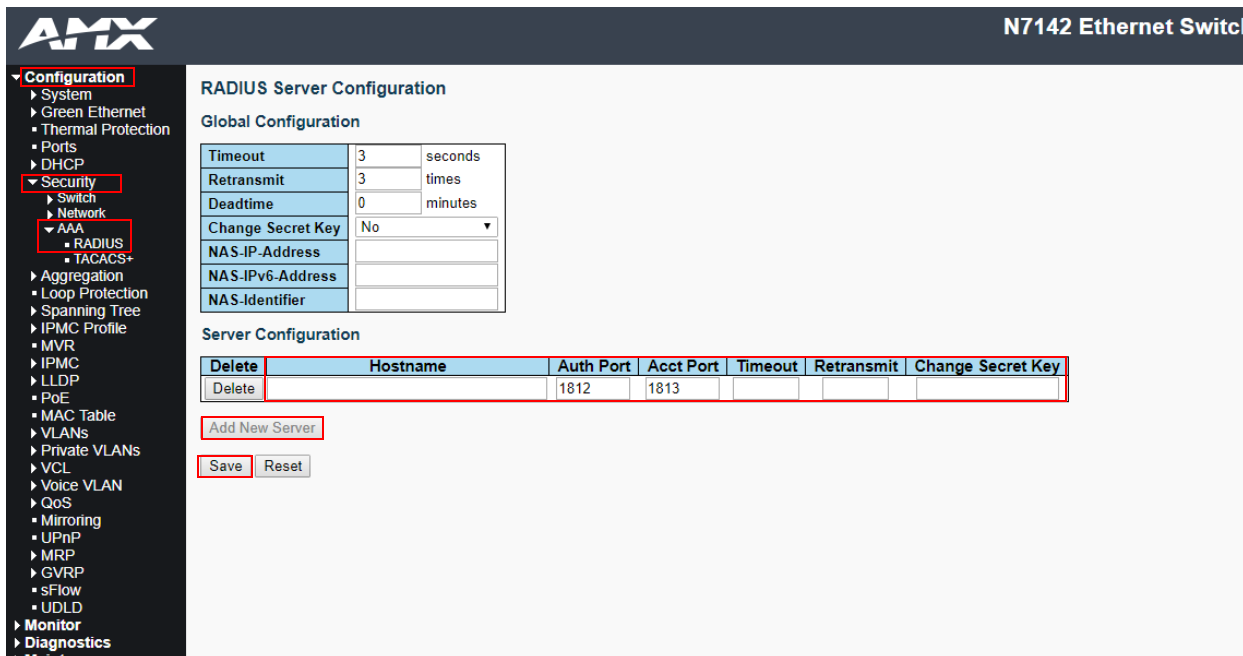

FIG. 8 Radius Server Configuration Page
4. Select **Configuration > Security > AAA > Radius** (as shown in Figure 8).